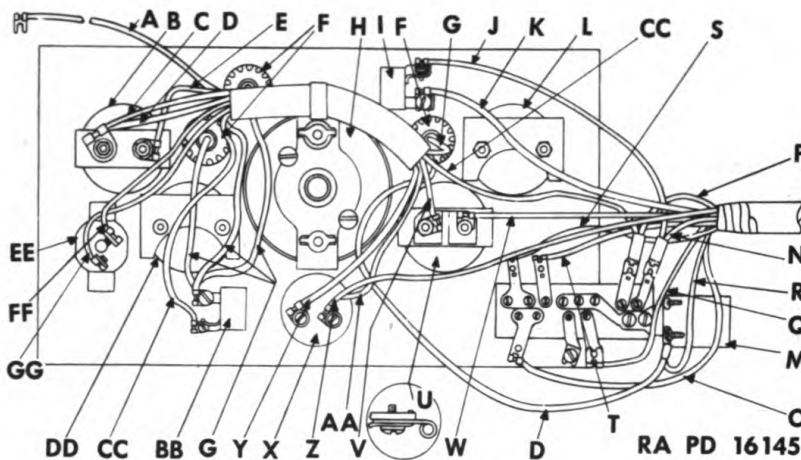

Figure 99—Instrument Panel Wiring Connections
d. Instrument Panel and Regulator Connections. Figs. 99 and 100 illustrate connections at instrument panel, and at regulator. Further details regarding these connections will be found in Section XXIX and Section XXI, respectively.